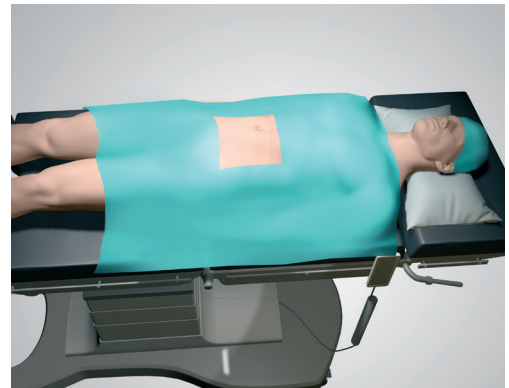

Figure 1
- ▲ Position the patient in the supine position (Fig. 1).